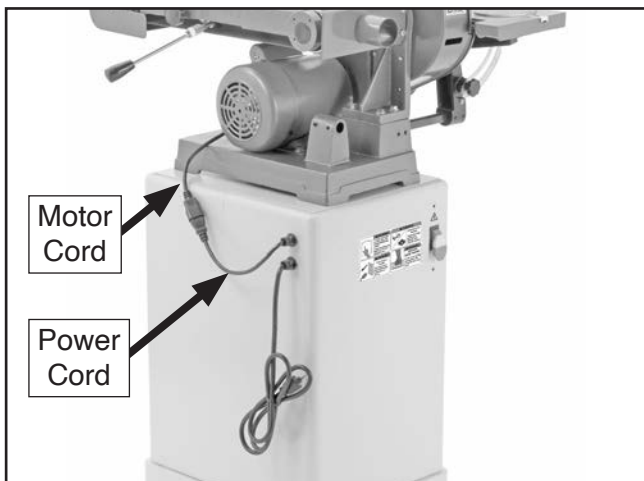

Figure 43. Motor cord connected to power cord.
42. **G1014ZX Only:** Connect the motor cord to the power cord on the cabinet (see **Figure 43**). **DO NOT** connect the sander to the power until indicated in the **Test Run** section on **Page 30**.